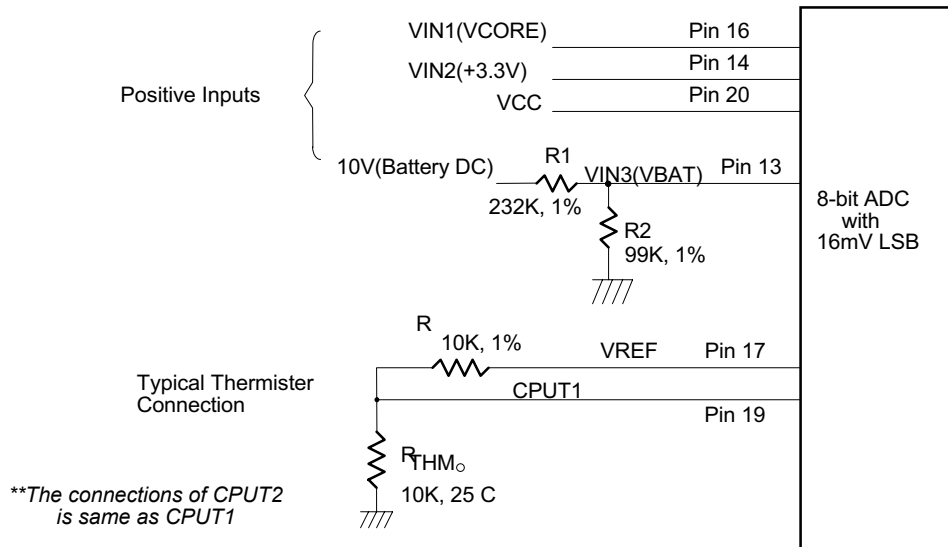

Figure. 10.
The maximum input voltage of the analog pin is 4.096V because the 8-bit ADC has a 16mV LSB. Really, the application of the PC monitoring would most often be connected to power suppliers. The CPU V-core voltage and +3.3V voltage can directly connected to these analog inputs. The 5VSB and battery inputs should be reduced a factor with external resistors so as to obtain the input range. As Figure 10 shows.
The W83L784AR can connect three thermistors to measure three different environment temperature. The specification of thermistor should be considered to (1) β value is 3435K, (2) resistor value is 10K ohms at 25°C. In the Figure 10, the thermistor is connected by a series resistor with 10K Ohms, then connect to VREF (pin 17).